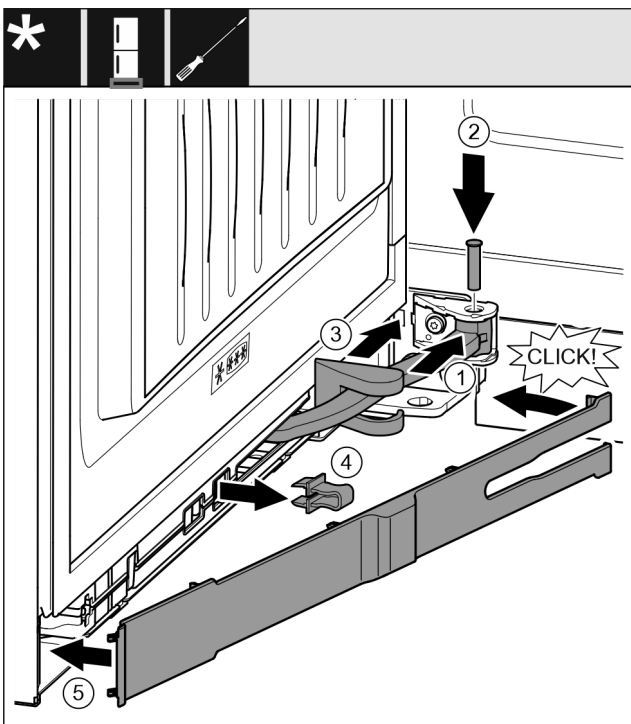

Fig. 53
- ▶ Turn the joint Fig. 53 (1) in the hinged suspension.
- ▶ Use a screwdriver to insert the pin Fig. 53 (2) into the hinged suspension and joint. In the process, make sure that the latching cam is correctly positioned in the groove.
- ▶ Slide the swap bearing block cover Fig. 53 (3) along the joint and install it above the hinged suspension.
- ▶ Remove the locking device Fig. 53 (4).
- ▶ Attach the panel Fig. 53 (5) from the handle side and swivel it on.